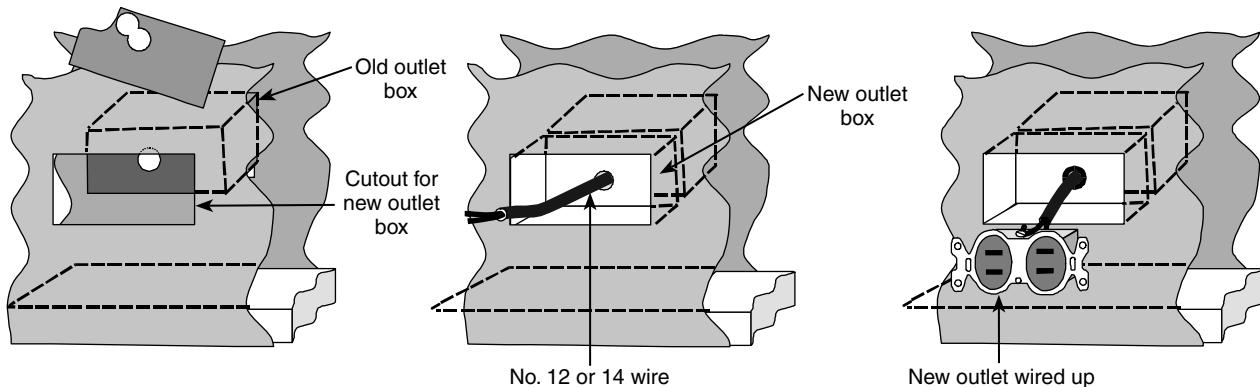

Figure 8-5
- Cut out the hole with a saber saw. You just want a hole big enough to push the outlet box into the wall. The lips at the ends must rest on top of the wall because they keep the box from falling inside. (For these next few steps, see Figure 8-5.)